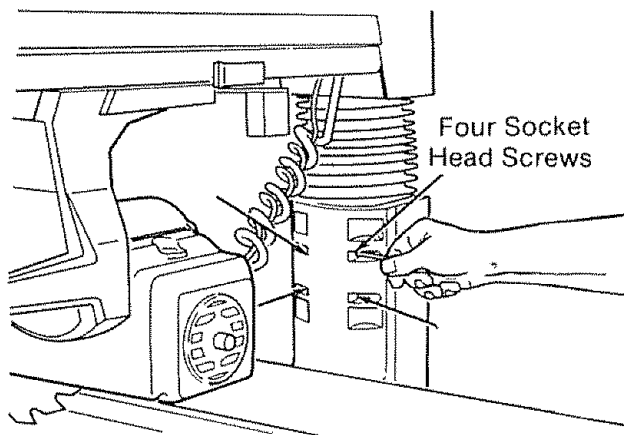

Fig. 71
12. Loosen the four screws in the front of the *column support* slightly, if you have not already done so in the Adjusting Elevation section. (Figure 71)